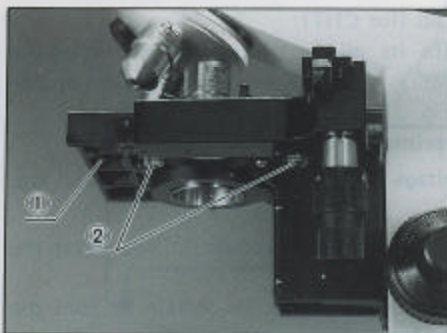

Fig. 7
Place the mechanical stage on the plain stage ①, with the specimen traversing guide closest to the microscope pillar, and tighten the stage clamping knobs ② with a coin. (Fig. 7)